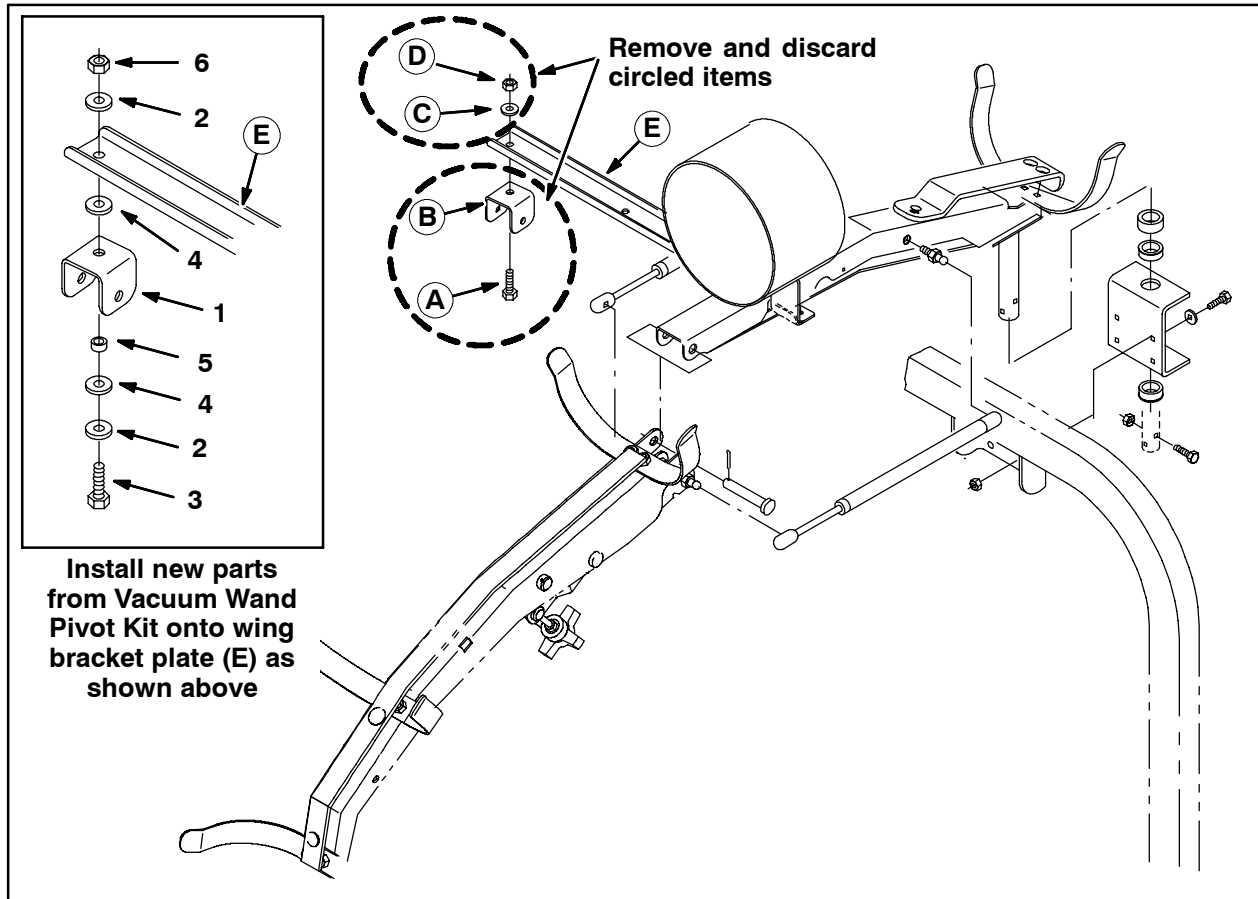

FIG. 2
2. Remove the hex screw (A), bent plate (B), flat washer (C), and hex nut (D) from the wing bracket plate (E). Discard all items removed from the wing bracket plate. Refer to Fig. 2.
3. Use a hex nut (6), two flat washers (2), two flat washers (4), a sleeve (5), and a hex screw (3) to install the new bent plate (1) onto the wing bracket plate (E). Refer to Fig. 2.